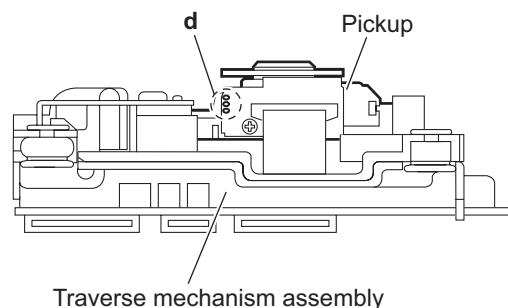

Fig.4
3.2.4 Removing the DVD module board (See Figs.4 and 5)
- (1) From the side of the traverse mechanism assembly, solder the short land sections **d** on the pickup. (See Fig.4.)
- Solder the short land sections **d** on the pickup before disconnecting the card wire from the connector CN101 on the DVD module board. If the card wire is disconnected without attaching solder, the pickup may be destroyed by static electricity. (See Figs.4 and 5.)
- When attaching the DVD module board, be sure to remove solders from the short land sections **d** after connecting the card wire to the connector CN101 on the DVD module board. (See Figs.4 and 5.)
(See Figs.4,6 to 8)
- Solder the short land sections **d** on the pickup before disconnecting the card wire from the connector on the pickup. If the card wire is disconnected without attaching solder, the pickup may be destroyed by static electricity. (See Figs.4 and 6.)
- When attaching the pickup, be sure to remove solders from the short land sections **d** after connecting the card wire to the connector on the pickup. (See Figs.4 and 6.)
(See Figs.4,6 to 9)